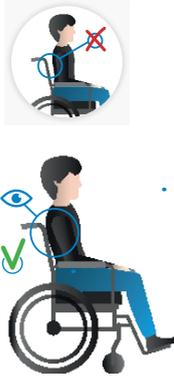

Figure 20 - Lean against back support
1. Let the client lean against the back support (see Figure 20).